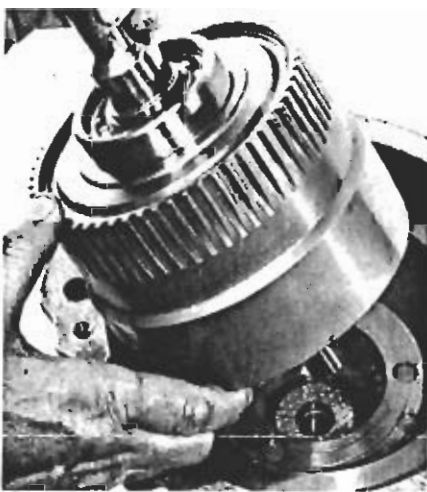

Figure 23 Reverse clutch parts assembled in case
**STEP 30** Assemble the thrust washer (76) on face of clutch cylinder, figure 23.
**STEP 31** Assemble eleven pressure plate springs (82) in the holes provided in reverse clutch cavity.
**STEP 32** Coat three dowel pins (22) with petrolatum and assemble in grooves provided in outer diameter of the reverse clutch cavity, figure 23.
**STEP 33** Assemble a reverse clutch friction plate (80) over exposed splines of ring gear, figure 23.